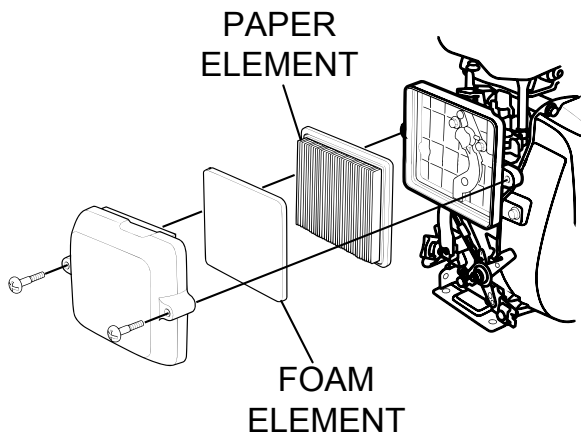

Figure 16. Air Filter
1. Remove the air cleaner cover and foam filter element as shown in Figure 16.